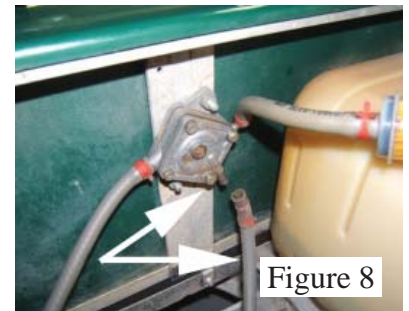

Figure 8
2. Disconnect the crankcase ventilation hose. (See Figure 8).